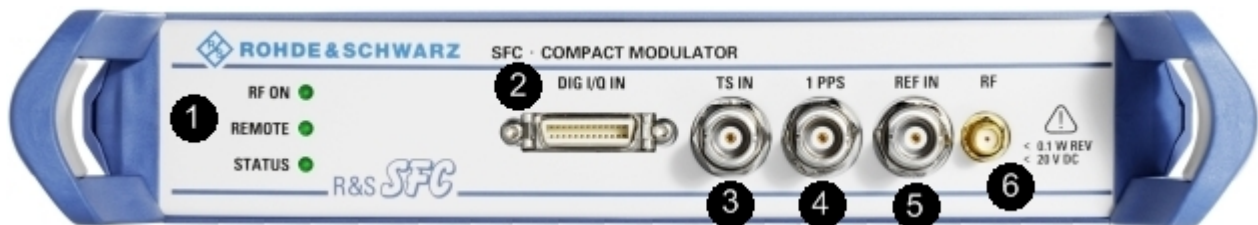

Figure 5-1: Front panel view
See (1) in Figure 5-1.
See (6) in Figure 5-1.